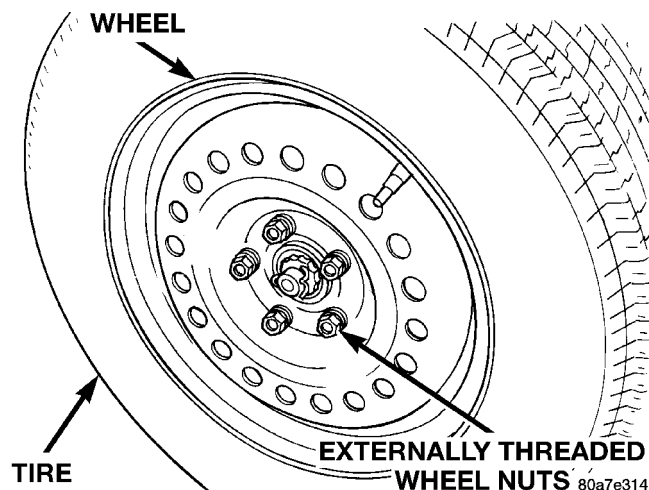

Fig. 13 Wheel Nuts
(2) Grasp the wheel cover and pull straight outward. This will remove the wheel cover from the wheel.
(3) Remove the wheel nuts (Fig. 13) from the studs.
(4) Remove the wheel and tire from the hub.